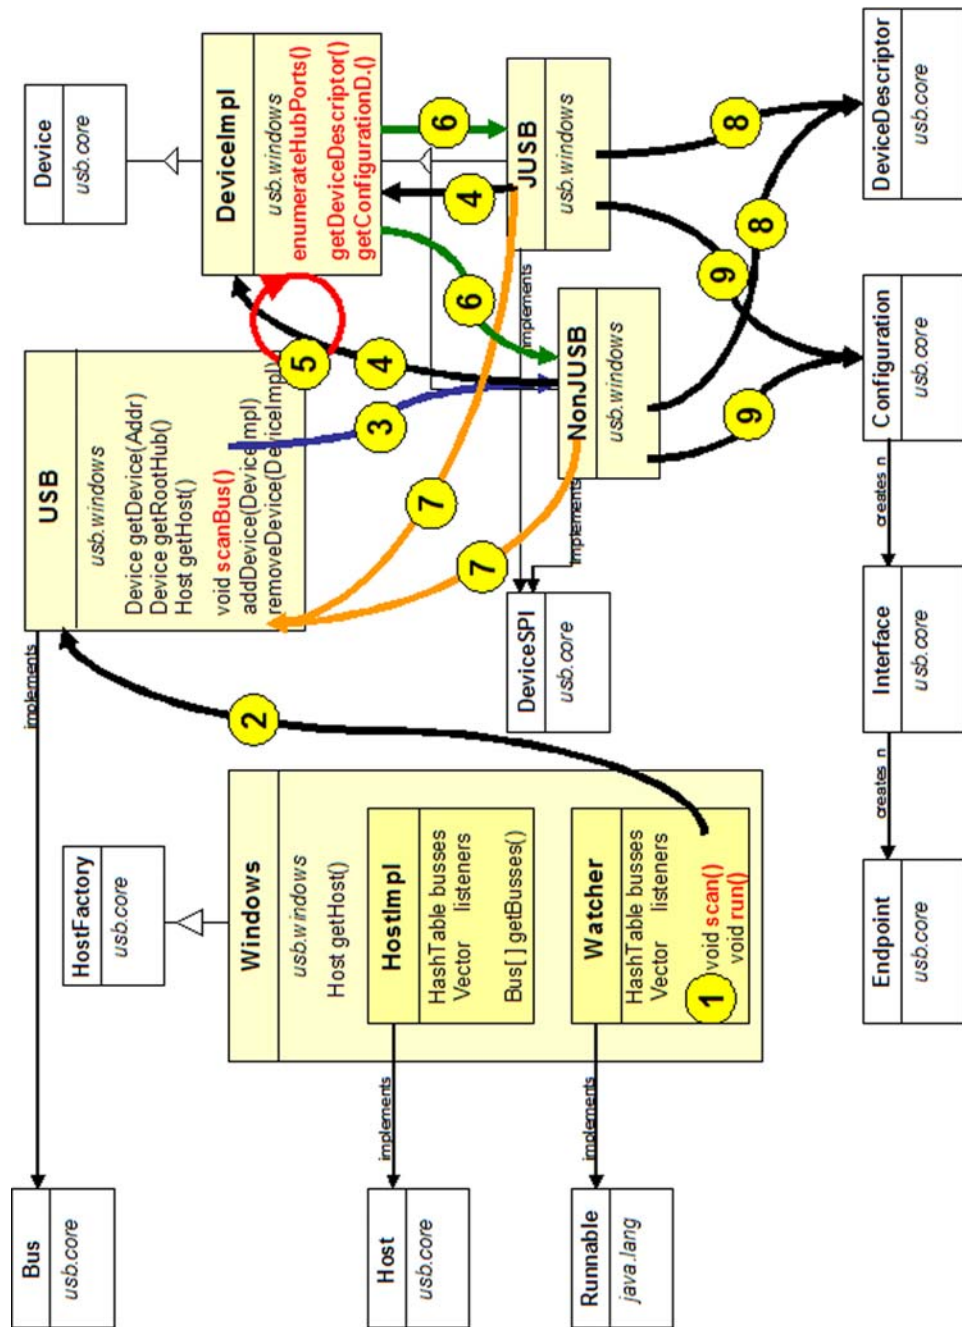

Figure 7: Class overview with its interaction
The *Windows* class which extends the *HostFactory* class contains to inner classes the *HostImpl* and the *Watcher* class. The *Watcher* class (Figure 7: ①) implements the *Runnable* interface and is therefore used for thread activity. The *Windows* class runs the *Watcher* thread as a daemon thread. This means as soon as our main application is finished, the *Watcher* thread will terminate as well. Within the *run* method, method *scan* should be called anytime when something has changed on the bus. The notification of USB structure changes we wanted to implement with a call-back function to the USB native on Windows with the aid of the *RegisterDeviceNotification* function. It is better if the *Watcher* only starts the *scan* method when really something has changed on the bus. In the `usbview` example this notification is done with *RegisterDeviceNotification*. This will call an event which can be handled in the *WindowProc* call-back function. Unfortunately this call-back depends on a window application. This means we can only fetch that event in a window object. So far we have only native calls in the jUSB DLL. We tried to make a fake window, which was not visible for the user to catch than the `WM_DEVICECHANGE` event, which is broadcasted when a change on the USB happened. This topic has some related aspects in user forums, but it seems to be that every one fight with the same problem. *RegisterDeviceNotification* is not usable in a DLL! If someone gets a solution we will be happy to here it.
Anyway the *Windows* class polls now every two seconds the bus to look for changes on the USB structure. The major task of the *scan* method in the *Watcher* class is to find out through a native call how many USB host controllers the current machine supports. It creates for every USB host controller a new *USB* object. It checks first of all if there already exist a *USB* object. In the case of already having a *USB* object it will just call the *scanBus* method of this *USB* object to monitor if changes have been occurred. In the other case a *USB* object will be created and put to the *HashTable* of current busses (Figure 7: ②).
USB Class	is given at enumeration time. The major work is done through the scanBus method. At first, it creates the root hub which exists only once for a USB bus (host) (Figure 7: ③). To avoid misunderstanding between the names of the Host class as they can be found in the Java USB API and the host of an USB bus, we briefly explain their differences. The Host class is an abstract definition for all USB busses on a system. Every USB bus consists always of a host and a root hub. The USB class does implement a host as defined in the USB specification. Therefore we can say that the USB class itself represents a host as known in common sense. Every USB object contains a root hub. This fact indicates that the USB class itself must be a host in USB topology.
scanBus	The scanBus method in the USB object gets now the native rootHubName of that given hostcontroller and creates a new NonJUSB for that root hub (Figure 7:③). This will be done in either way if we have already an existing root hub or not. This design is made in that way because we call the enumerateHubPorts method in DeviceImpl recursively to get all devices on the bus and the bus structure itself. The root hub creation starts this recursion and therefore we need to create it for each scan. In other words the enumeration is done by the devices itself and every device that exists on the current bus will add itself to the USB object. To avoid always getting notified by the USBListener that a new root hub is created we check if we already have a root hub for that bus and do only notify the USBListener when there was no root hub before. In the other case we create the root hub again without notifying its listeners.
Enumeration	The NonJUSB and the JUSB class delegate most work to their superclass DeviceImpl (Figure 7: ④). The DeviceImpl class has two constructors, one is used for the root hub and the other one is used when the device is either a USB device or an external root hub. The DeviceImpl object will get some information about the USB device itself. Through native calls it will get to know how many ports it has and what kind of device type is connected to each of their ports. The port can be free (no device connected) or a device or even a hub can be connected. If a hub is connected we recursively call the enumerateHubPorts method to get all the children of the hub (Figure 7:⑤).
JUSB or NonJUSB	The enumerateHubPorts method is in charge to update the bus structure. It knows the recent structure from the oldDevices member. It compares those members with the currently processed device. If the currently processed device can be found at the same address in the oldDevices member, we check the device to make sure that it is still the same. In case of a device (not a hub) the decision is made in one step. We only check if the device's current unique ID correspond to the recent device unique ID. If not, we remove the recent device from the bus and add the current device to the bus and inform the listeners about a removal and an attachment. In case of having a hub we have to check all its ports recursively down, to make sure that everything remains the same. If we remove a hub, we have to inform the listeners about a removal of the hub and all its children that used to be connected to it. In both cases when a device is new to the bus or it has changed we create a new NonJUSB or JUSB object depending on the friendly driver name and add it to the USB object (Figure 7: ⑦).
At the moment when a friendly driver name starts with "JUSB Driver --:", this is a public string constant, called A_JUSB_DRIVER declared in the Windows class, we create a JUSB object and otherwise a NonJUSB object. In either way whether we created a JUSB or NonJUSB object we get the device descriptor through the getDeviceDescriptor method from their superclass. This method is not part of the DeviceSPI , but makes it possible to read the descriptor of any device (Figure 7 : ⑧). Furthermore, we get the default configuration descriptor in the same way (Figure 7: ⑨). If a device has multiple configurations, we only get the configuration with index zero!